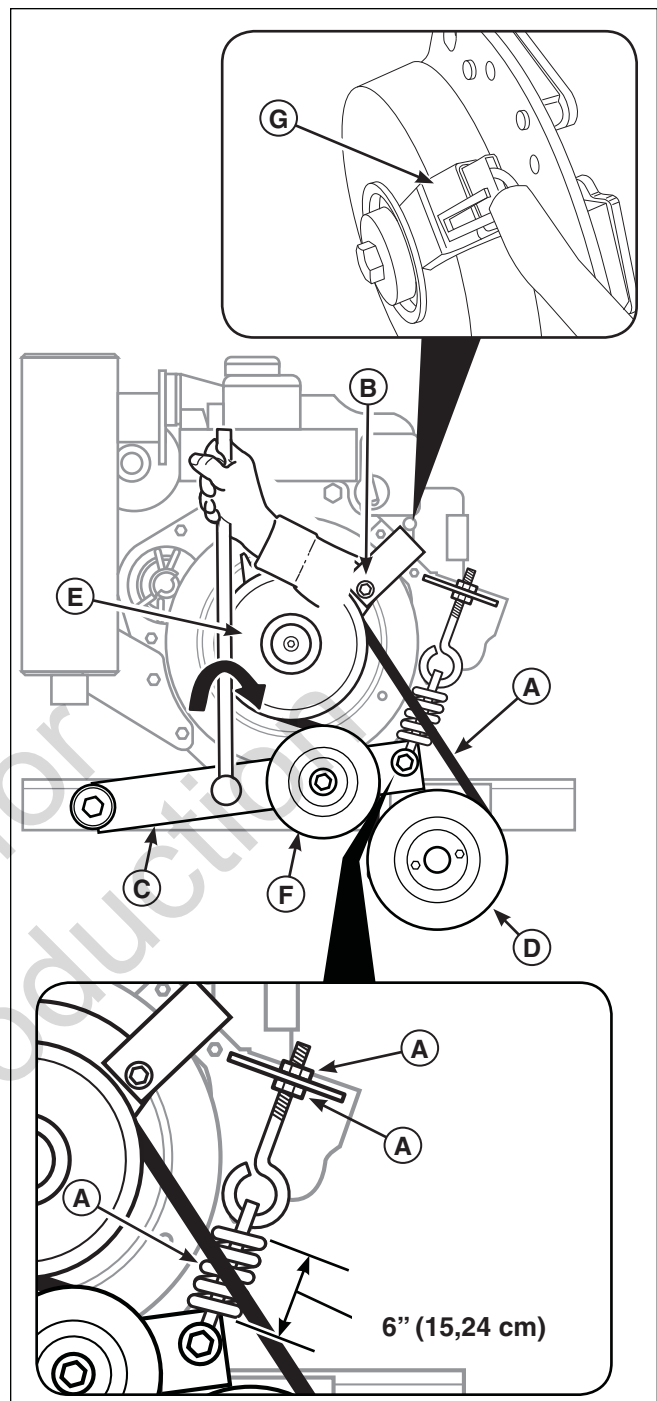

Figure 61. PTO Clutch Belt Replacement
2. Open the hood to gain access to the PTO clutch belts (A, Figure 61) which is located on the rear of the engine.
3. Remove the PTO clutch anchor bolt (B).
4. Disconnect the PTO clutch wire harness (G).
5. Using a 1/2" breaker bar, place the square end in the square hole located in the end of the idler arm (C). Carefully rotate the breaker bar **CLOCKWISE**, which will relieve tension on the breaker bar.
6. Slide the PTO clutch belts over the edge of the gearbox pulley (D). Carefully release the tension on the breaker bar.
8. Install the new PTO clutch belts on the PTO clutch (E) and the idler pulley (F). Carefully rotate the breaker bar **CLOCKWISE** and install the pulley on the gearbox pulley (D). Carefully release the tension on the breaker bar.
9. Reinstall the PTO clutch bolt (B).
10. Reconnect the PTO clutch wire harness (G).
1. Measure the idler arm spring (A, Figure 61) as shown in Figure 61. The spring should measure 6" (15,24 cm).
2. If the measurement does not equal 6" (15,24 cm) loosen the jam nut (B) and turn the spring adjustment nut (C).